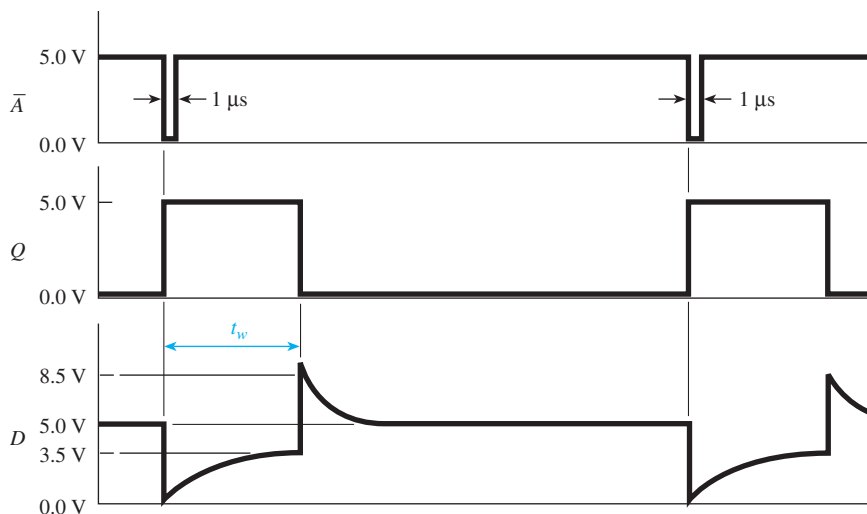

Figure 14-11 Waveforms for Example 14-6.
- (a) The waveforms for the multivibrator are shown in Figure 14-11.